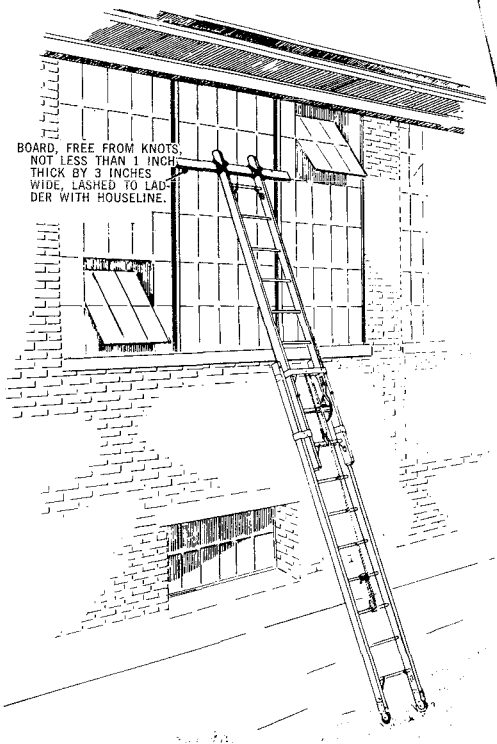

Fig. 13 — Ladder Placed in Front of Window
6.10 Never place an extension ladder against a window sash. If it is impracticable to avoid placing a ladder in front of a window, lash a board to the ladder as shown in Fig. 13 in order to provide support on each side of the window frame.